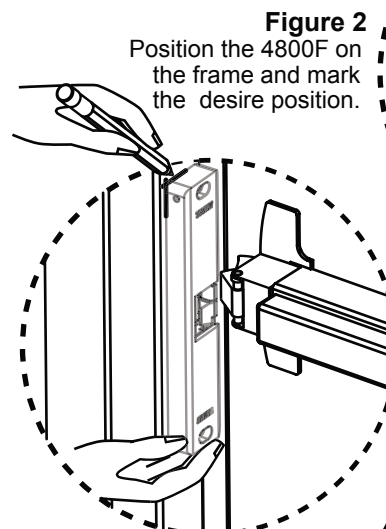

Figure 2
2. Using the marks you just made as your guide, position the 4800F over the mark on the frame. Make sure that the Auxiliary latch rides up properly over the 4800's edge, and is engaged, and that the door is in the fully closed position. See Figure 2